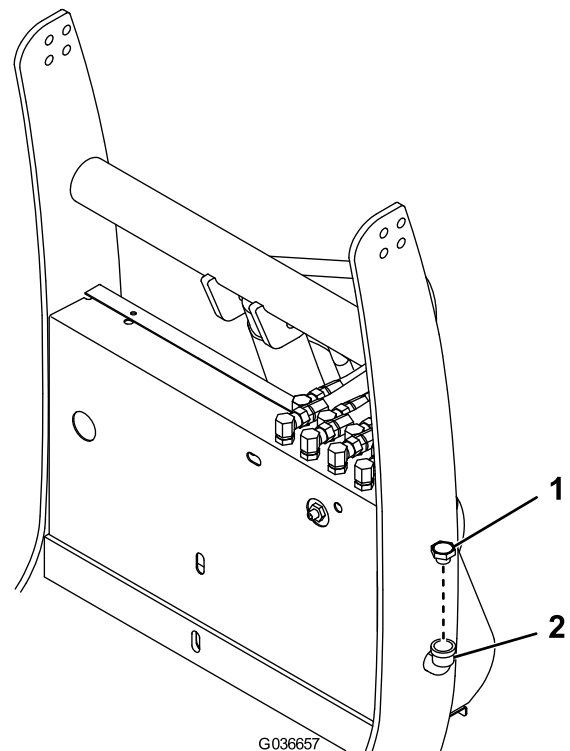

Figure 16
- Remove the fill cap from the hydraulic reservoir (Figure 16).